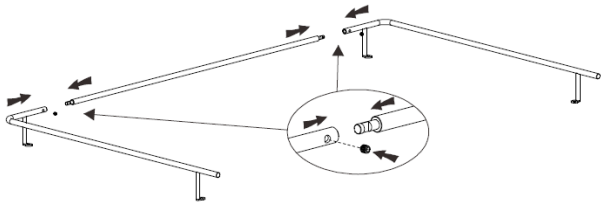

Figure 3
- Use M4 × 4mm screws to fix the left bar, right bar, and front bar together (Figure 3).